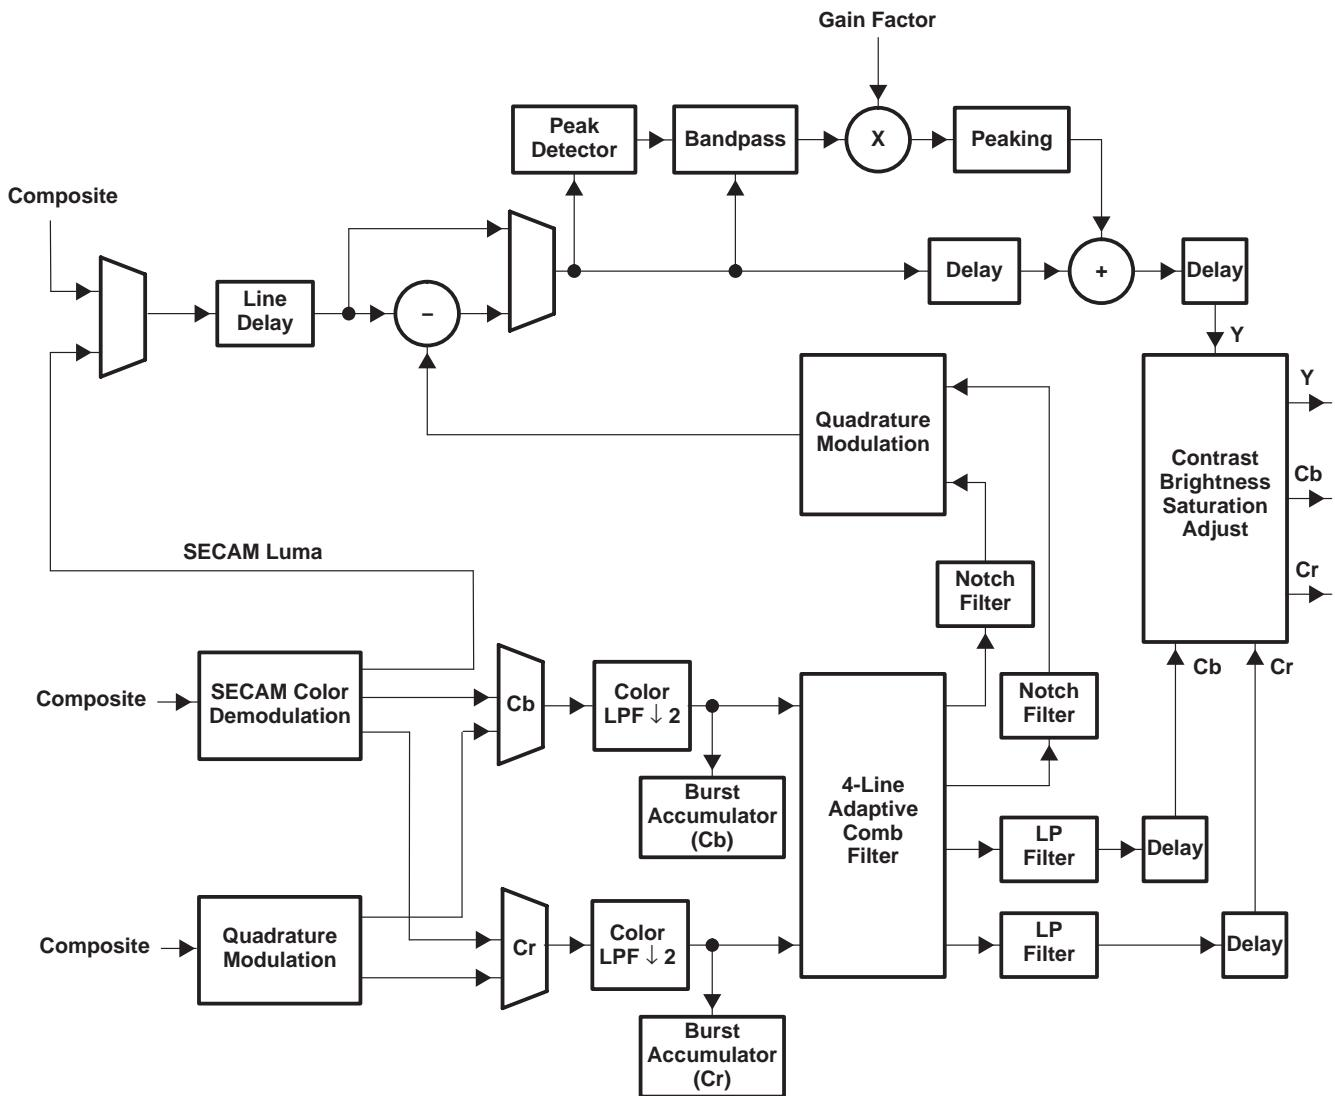

Figure 2–1. Composite Processing Block Diagram
The composite processing block processes NTSC/PAL/SECAM signals into the YCbCr color space. Figure 2–1 explains the basic architecture of this processing block.
Figure 2–1 illustrates the luminance/chrominance (Y/C) separation process in the TVP5150A decoder. The composite video is multiplied by subcarrier signals in the quadrature modulator to generate the color difference signals Cb and Cr. Cb and Cr are then low-pass (LP) filtered to achieve the desired bandwidth and to reduce crosstalk.